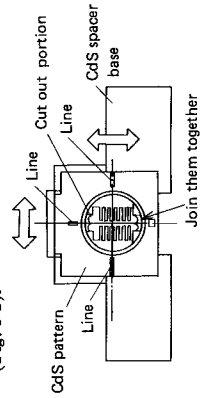

Fig. 3-8 CdS assembly mounting
2. Then align the CdS spacer base line with the center of the circuit board pattern, and allow adhesive to run in between the CdS component and the CdS spacer to join them together (Fig. 3-8).